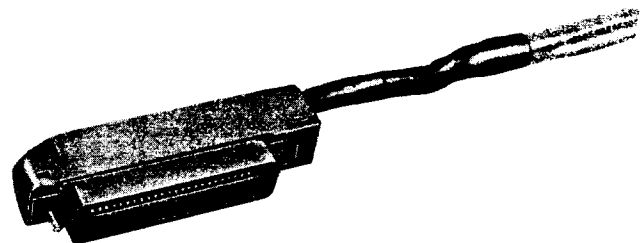

Fig. 7—Ribbon Connector/Plenum Cable Assembly
3.03 Wiring Termination. Terminating the conductors of B Plenum Cable follows the same methods as D Inside Wiring Cable. The conductor insulation and color code are identical and no special methods, tools, or hardware are required (see Section 461-200-100). The B Plenum Cable can be connectorized in the field using ribbon connectors. An installation of this type is shown in Fig. 7.